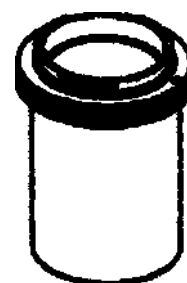

Fig. 28
13.7 Adapters for cameras Nikon, Canon, Sony. (fig.28)